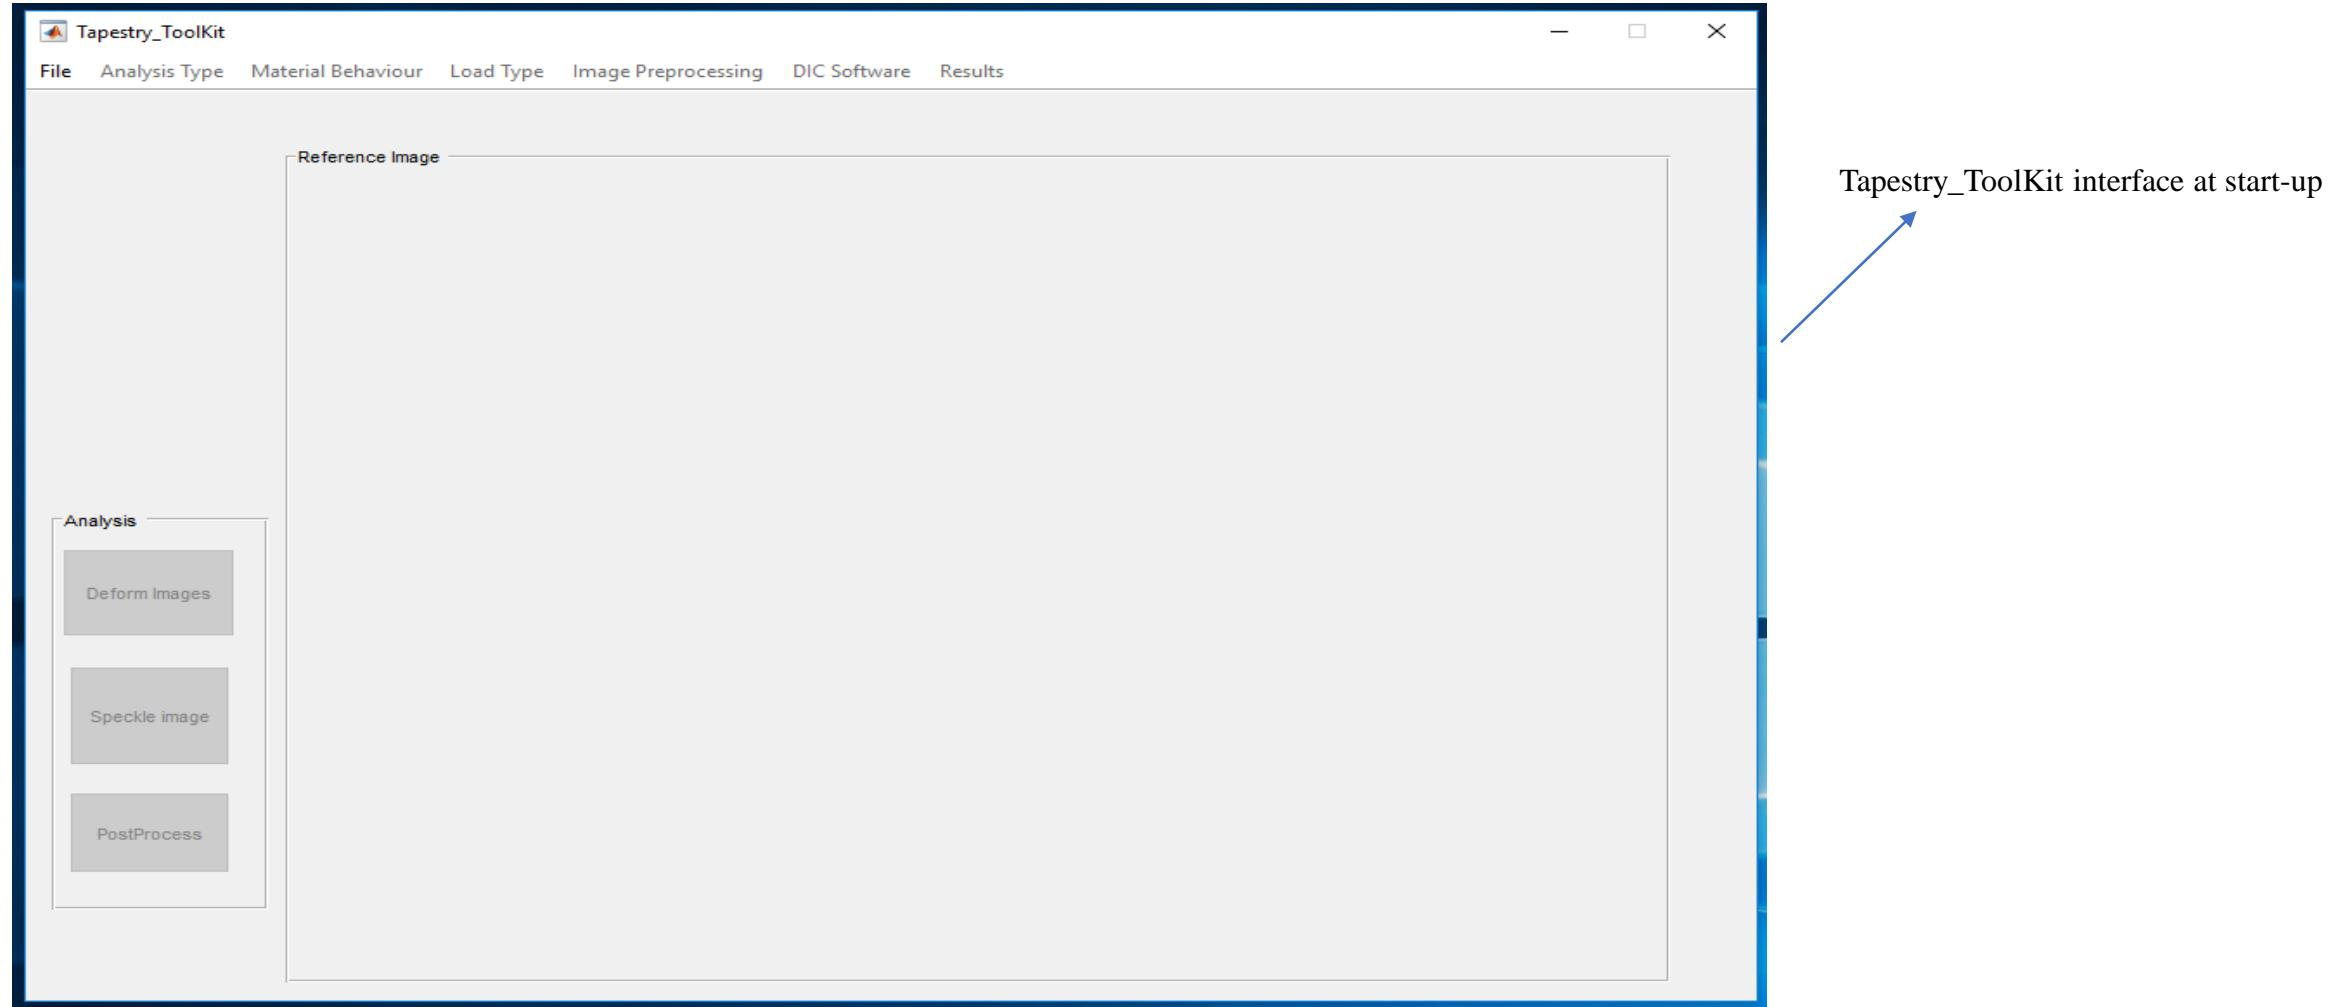

Figure 1
Step 2. From your working directory, double click on the file named: Tapestry_ToolKit.exe and wait for the software to open. At start up, the software interface will look as shown in the Figure 1.